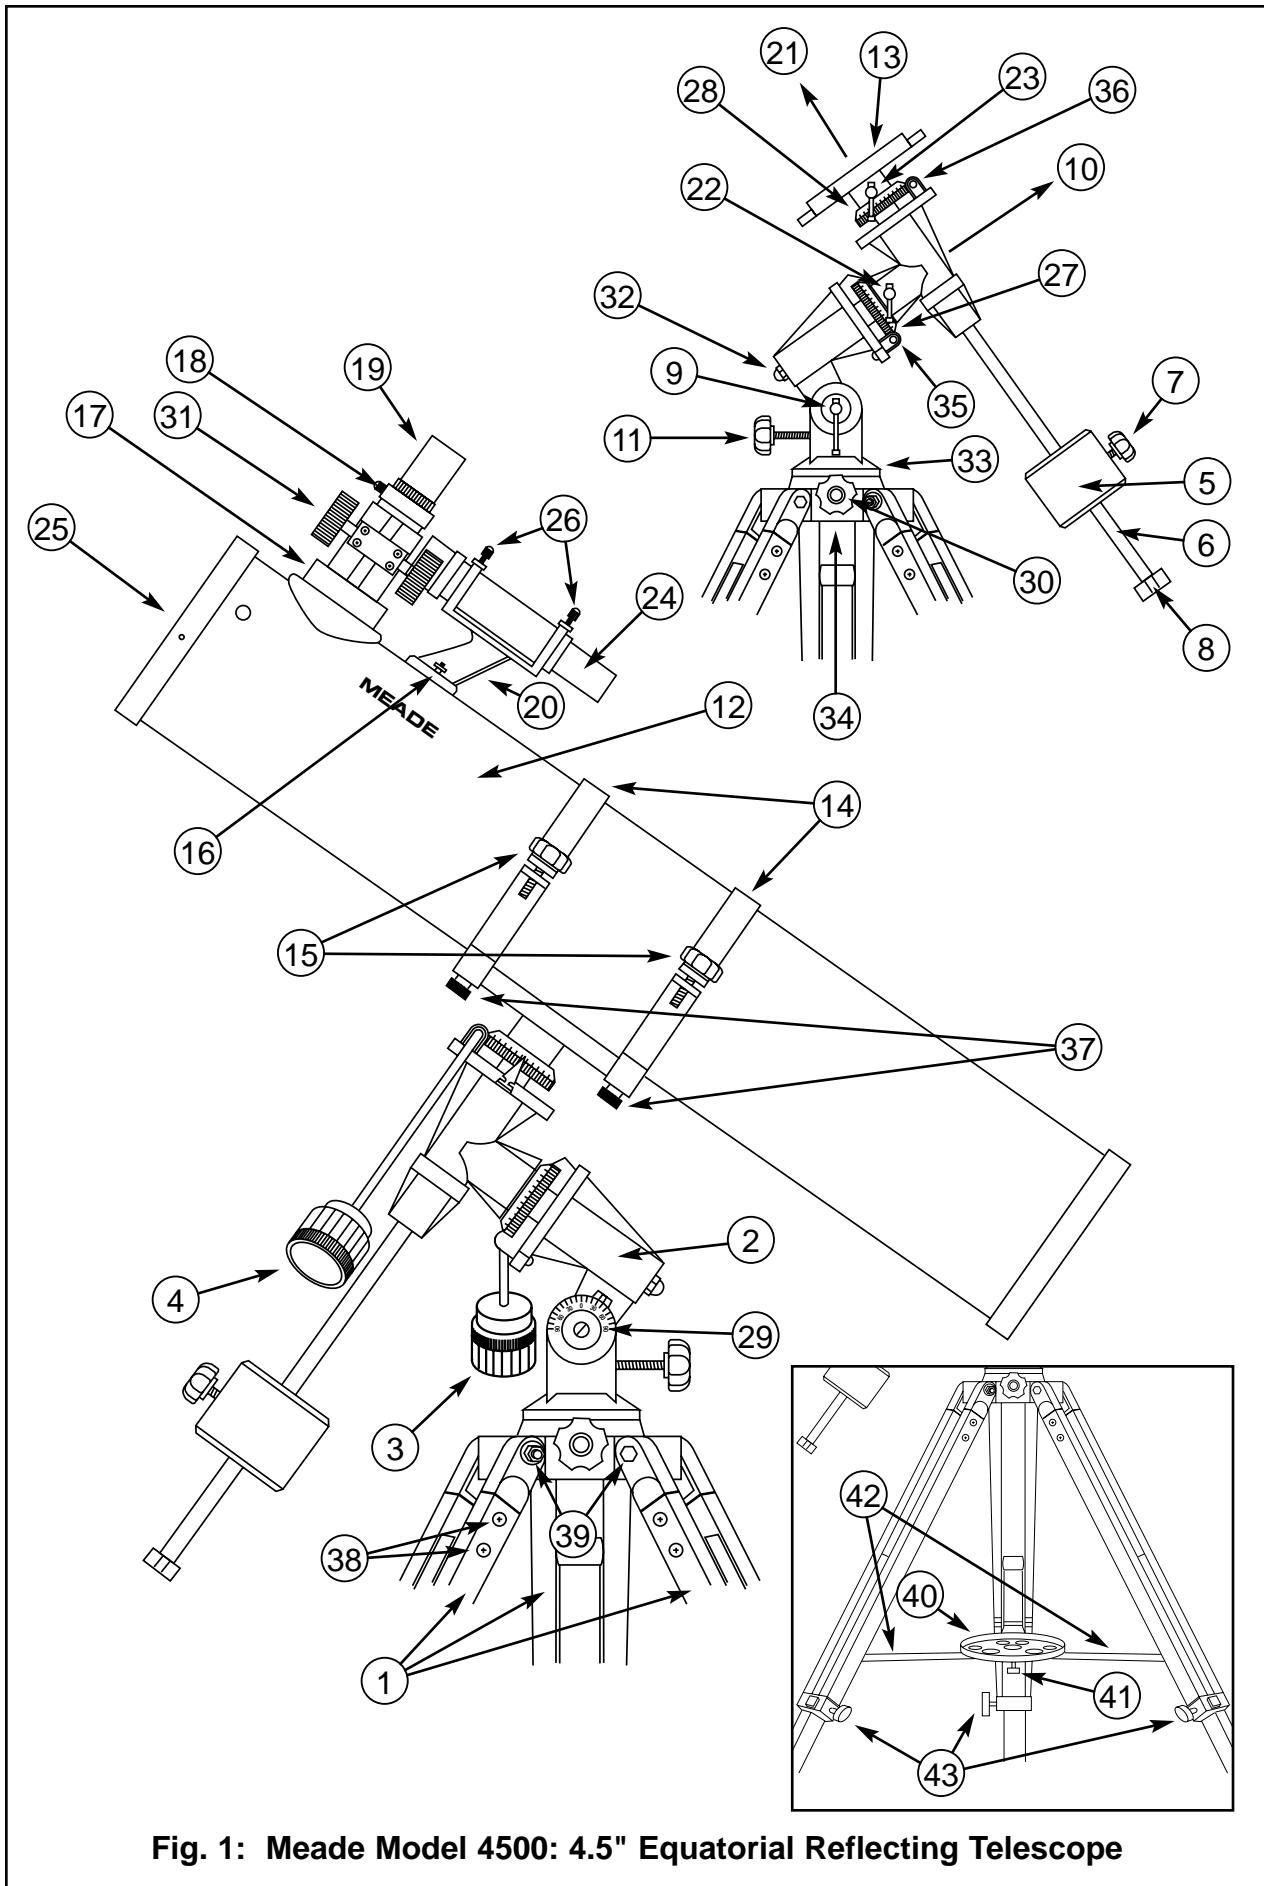

Fig. 1: Meade Model 4500: 4.5" Equatorial Reflecting Telescope
Key to Fig. 1
Your Meade Model 4500 comes to you packaged almost entirely pre-assembled. You will find upon opening the giftbox that there are two compartments within that contain the optical tube assembly and the tripod with equatorial mount. The accessories described above will be located within compartments custom-cut into the styrofoam block inserts. (References herein—e.g. (6)—are to Fig.1 unless otherwise specified.)
- The three tripod lock knobs (43) have been removed from the bottom section of each tripod leg to insure safe arrival of the tripod assembly. To install, thread in each tripod lock knob into the threaded hole located at the right side of each of the three gray colored castings (see illustration below) at the bottom of each tripod leg. Tighten the tripod lock knob only to a "firm feel" to avoid damage to the tripod caused by overtightening.
- Spread the tripod legs (1) to full extension so that the leg braces (42) are taut (should one of the tripod leg braces slip out of the center triangle fastener, merely reposition the brace and slide it back into position). Adjust the tripod with the attached equatorial mount (2) to the desired height by loosening the tripod lock knobs and extend the sliding inner section of each tripod leg; then tighten each knob.
- Remove the mounting knob (41) from the round accessory shelf (40). Place the accessory shelf on top of the center triangle leg brace fastener of the tripod (1) so that the threaded stud protruding from the bottom of the shelf (40) passes through the hole in the center. Then replace and tighten the accessory shelf mounting knob (41).
- Attach the flexible cable controls (3) and (4). These cable controls are secured in place with a firm tightening of the thumbscrew located at the end of each cable.
- Holding the counterweight (5) firmly in one hand, slip the counterweight onto the counterweight shaft (6). Attach the counterweight (5) and counterweight shaft (6), by supporting the unlocked (7) counterweight firmly in one hand, while threading the counterweight shaft into the base of the Declination axis of the telescope's equatorial mount with the other (see Fig. 1). Once firmly attached, slide the counterweight to the midpoint on the counterweight shaft and secure it in place with the lock knob (7) of the counterweight. Note: If the counterweight ever slips, the secured threaded safety washer/knob (8) will not let the weight slide entirely off the counterweight shaft. **Be certain that this safety washer/knob is always in place.**
- Release the latitude lock (9) of the equatorial mount, and tilt the polar axis (10) of the telescope to roughly a 45° angle by turning the latitude adjustment knob (11). With the polar axis thus tilted, firmly re-tighten the latitude lock.
- Loosen the lock knobs (15) of the cradle rings (14) and open the cradle rings to position them over the optical tube assembly (12). Turn the lock knobs a few turns to keep the cradle rings closed, but to still allow the cradle rings to slide freely up-and-down the main tube.
- Remove the viewfinder bracket mounting nuts from the viewfinder bracket mounting bolts (16) that protrude from the optical tube (12), near the focuser. Place the viewfinder bracket's mounting holes (located at the base of the bracket) over the mounting bolts, so that the bracket is oriented as shown in Fig. 1. Replace the viewfinder bracket mounting nuts, and tighten to a firm feel. Then center the viewfinder in both bracket rings by backing off the three thumbscrews (26) on each bracket ring. Orient the viewfinder so its front objective lens is pointing in the same direction as the open end (front) of the optical tube (25).
- While firmly holding the optical tube (12), position it onto the optical tube saddle plate (13), with the mid-point of the optical tube's length lying roughly in the center of the saddle plate. Then slide the cradle rings (14) over the saddle plate of the mount. Tighten the cradle ring attachment knobs (37) to a firm feel when the cradle rings are positioned over the telescope's saddle (13). Then tighten the cradle ring lock knobs (15) to a firm feel; do not overtighten these knobs. Please note that you may want to change the rotational position of the optical tube to gain a more comfortable observing position of the focuser (17). This adjustment may be performed several times in one observing session, as desired.
- Insert the MA25mm eyepiece (19) into the focuser, and tighten the focuser thumbscrew (18) to secure the eyepiece.
The wide field of view provided by the 6 x 30mm viewfinder permits easy object sighting prior to observation in the higher-power main telescope. The 6 x 30 Viewfinder (24) and viewfinder bracket (20) should be attached to the telescope tube assembly as described above (see Figure 1). In order for the viewfinder to be functional, however, it must be aligned to the main telescope, so that both the viewfinder and main telescope point at the same position in the sky. With this simple alignment performed, finding objects is greatly facilitated, since you will first locate an object in the wide-field viewfinder, then you will look in the eyepiece of the main telescope for a detailed view. To align the viewfinder follow these steps:
- Remove the telescope front dust cover (25), and the dust covers of the viewfinder.
- Unlock the R.A. lock (22) and the Dec. lock (23) so that the telescope turns freely on both axes. Then point the main telescope at some well-defined land object (e.g. the top of a telephone pole) at least 200 yards distant, and re-lock the R.A and Dec. axes. Turn the flexible cable controls, (3) and (4), to center the object in the telescopic field.
- With the front of the viewfinder already centered in the front bracket ring, look through the viewfinder and loosen or tighten, as appropriate, one or more of the rear viewfinder bracket ring thumbscrews (26) until the viewfinder's crosshairs are likewise centered on the object previously centered in the main telescope.